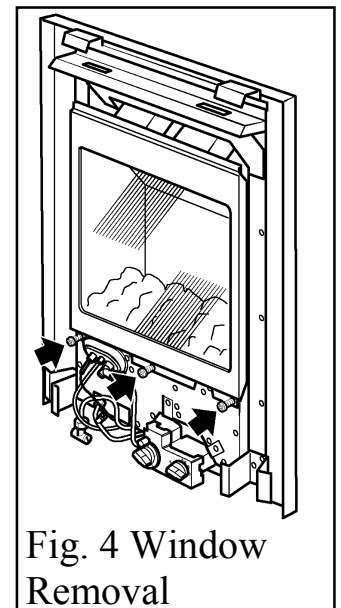

Fig. 4 Window Removal
- Unscrew and remove the three spring loaded window fixing screws and washers from the base of the window frame. See figure 4. Keep the screws and washers in a safe place.